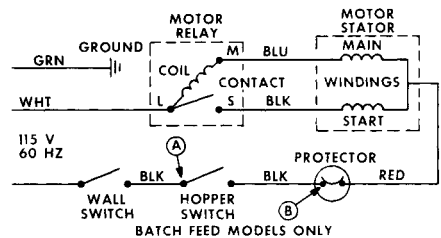

Figure 10 - Schematic
1. To check main winding, connect ohmmeter probes from blue lead, terminal "M" on relay, Figure 10, to the disconnected red lead. If there is continuity (approximately 2.2 ohms), then the main winding OK.
2. To check start winding, connect ohmmeter probes from black lead, terminal "S" on relay, Figure 10, to the disconnected red lead. If there is continuity (approximately 5.7 ohms), then the start winding is OK.